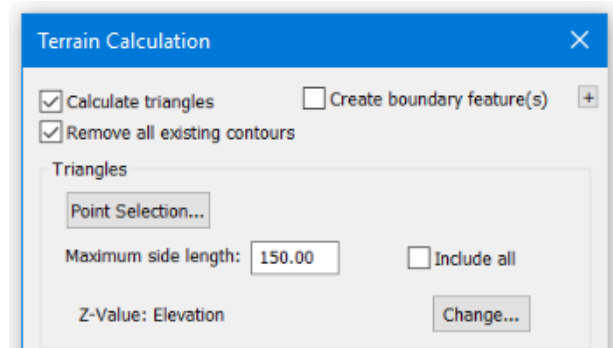

Figure 4-5: *Terrain Calculation with Triangle Maximum Side Length Limited*
9. Check *Calculate triangles* box, un-check *Include all* and set the Maximum side length: **150** (see Figure 4-5).